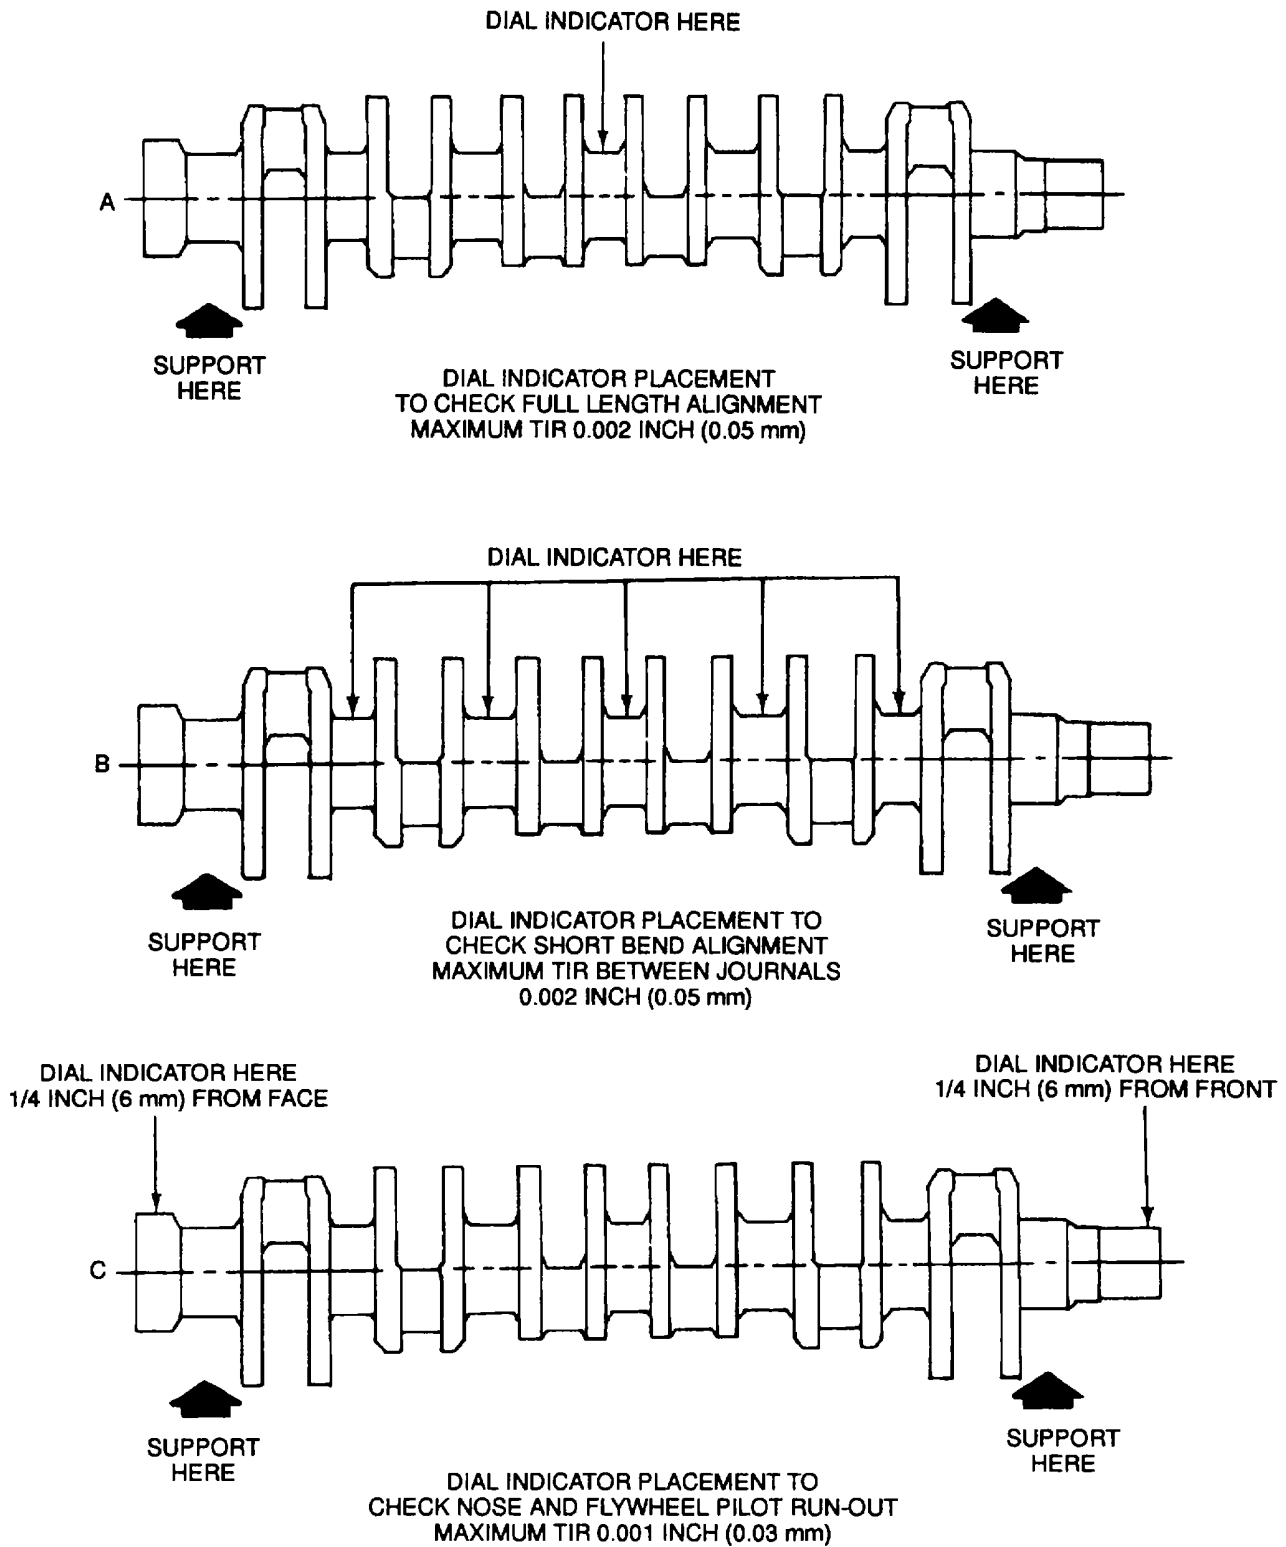

Figure 9-39. Crankshaft Alignment Checks
- (1) Support the crankshaft in V blocks and use a dial indicator to check full length alignment (A, Figure 9-39), short bend alignment (B), and nose section and flywheel pilot runout (C).
- (2) If the TIR for full length alignment exceeds 0.002 inch (0.05 mm), straighten the crankshaft in accordance with step e, below.
- (3) If the TIR between adjacent main bearing journals exceeds 0.002 inch (0.005 mm) correct for short bend alignment in accordance with step e, below.
- (4) If the TIR of the nose section or flywheel pilot exceeds 0.001 inch (0.03 mm), correct the runout in accordance with step e, below.
- (5) If the crankshaft gear was not removed, position the dial indicator on the gear teeth and check the runout. If the TIR exceeds 0.001 inch (0.03 mm), remove the gear in accordance with paragraph 9-18, and check the gear step in accordance with step (6), below.
- (3) Release the straightening load, and check the TIR of the crankshaft. Reapply the straightening load as necessary until the TIR of the crankshaft is within 0.002 inch (0.05 mm) for both full length and short bend alignment (Figure 9-39 and Figure 9-44).